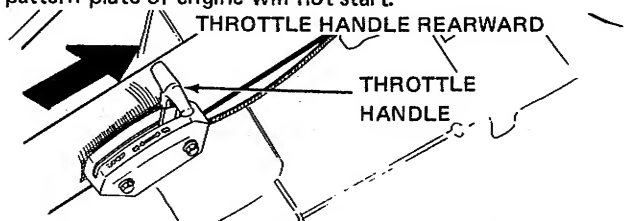

FIGURE 7
2. Move throttle lever all the way rearward to close the choke (Figure 7). Always move to this position to start, whether engine is warm or cold. Make sure shift lever is in neutral (Figure 5) and mower disengaged (Figure 6). Shift lever must be completely up into neutral (N) notch of shift pattern plate or engine will not start.